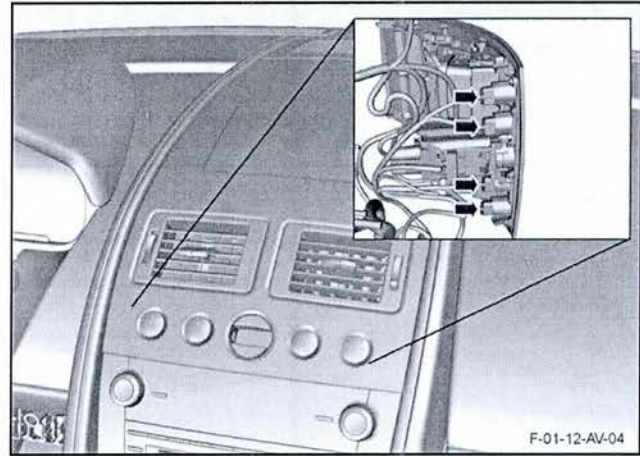

Figure 16
- 27. Connect the electrical connector to each of the four transmission control switches (refer to Figure 16).